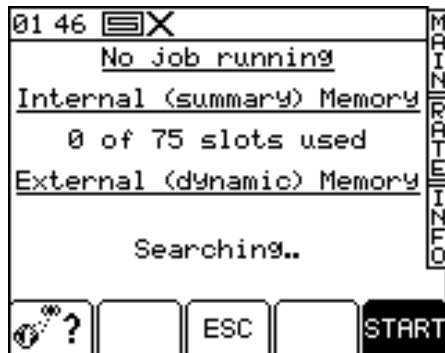

Figure 41. Logging screen
1. Press the  key to display the logging screen (Fig.41).